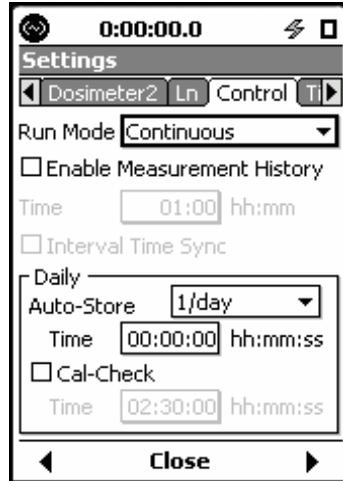

FIGURE 3-12 Model 831 Run Preferences
Step 5 Check the Run Mode and Auto-Store Preference selections. The default settings are shown in Figure 3-12.
To modify the Run preferences for the model 831, scroll to **Run Mode** or **Auto-Store**, as shown in Figure 3-12, and select the desired option from the drop down menu, and then press **ENTER**.